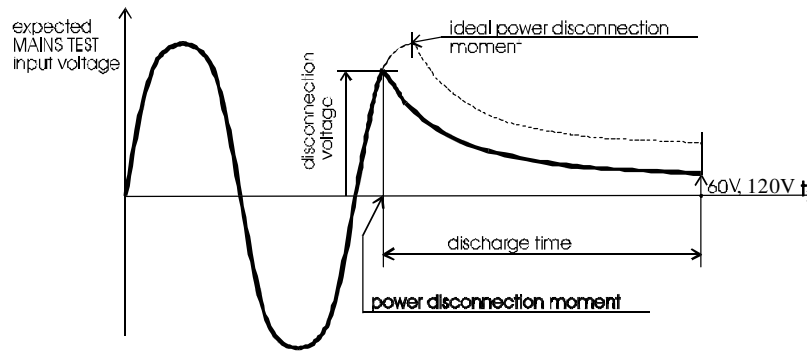

Fig. 25. Voltage on MAINSTEST input
STEP 6. Pull out double connection element and wait for the result to be displayed. If the disconnection voltage is high enough to carry out a measurement, (see fig. 25) **Start** message is displayed and the measurement will be performed. If the voltage is not high enough then the result of 0.0 s and **Repeat** message are displayed. In this instance repeat measurement from STEP 3. If the result 0.0 s and **Repeat** message reappears repeat measurement 5 to 10 times successively, the result 0.0. it can be accepted as valid. **Timeout** is displayed if the double connection element is not pulled out in 10 s, or discharging time is higher than 10 s.
- STEP 6.** Pull out power supply connector and wait for the result to be displayed. If the disconnection voltage is high enough to carry out a measurement, (see fig. 25) **Start** message is displayed and the measurement will be performed. If the voltage is not high enough then the result 0.0 s and **Repeat** message are displayed. In this instance repeat measurement from STEP 3. If the result 0.0 s and **Repeat** message reappears repeat measurement 5 to 10 times successively, the result 0.0. it can be accepted as valid. **Timeout** is displayed if the double connection element is not pulled out in 10 s, or discharging time is higher than 10 s.